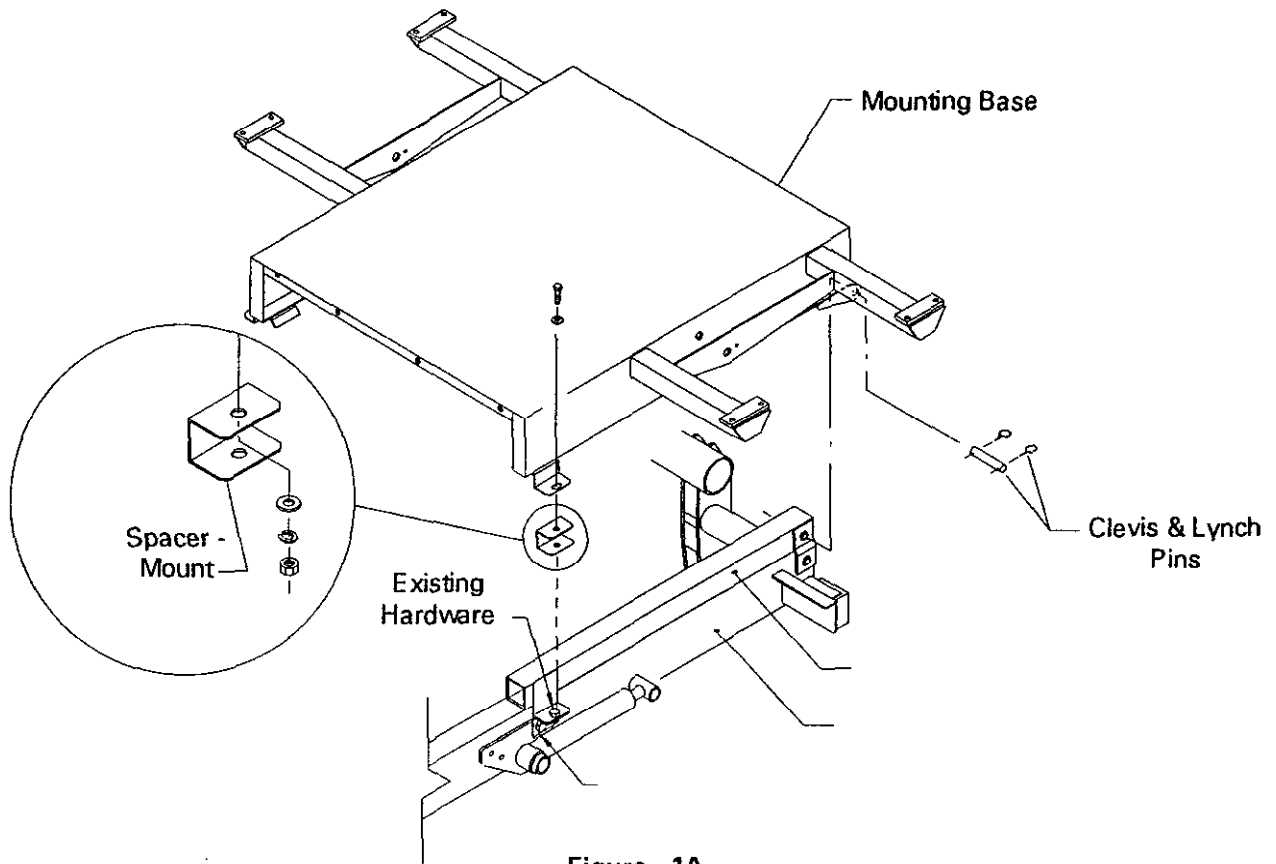

Figure 1A
**NOTE:** If Workman has a H.D. Hitch Frame installed, the Bracket Attachment Mounts will already be attached. Two Spacer - Mounts (92-4576) must be installed to mount the Base to the Workman. See Fig. 1A.